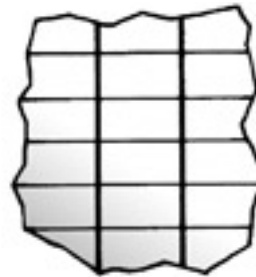

FIG. 3 - If 2x4 panels are used, choose from either a standard or reversed pattern.
- For the 600x1200 pattern, decide to install the patterns in a standard or reverse pattern (Fig. 3). Each pattern offers a different appearance.